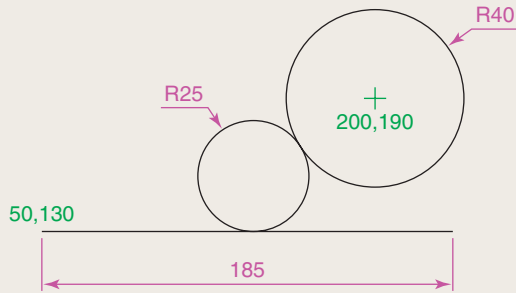

Fig. 2.32 Exercise 5
- In an **acadiso.dwt** screen and using the **Circle** and **line** tools, construct the line and circle of radius **40** shown in Fig. 2.32. Then, using the **Ttr** prompt, add the circle of radius **25**.